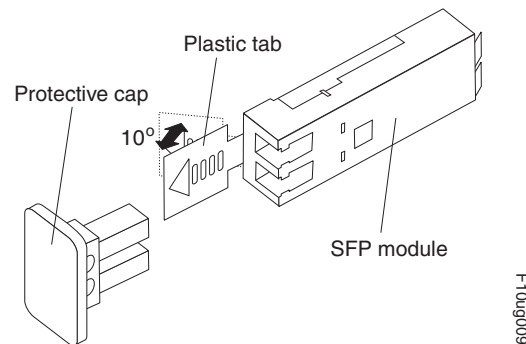

Figure 89. Unlocking the SFP module latch - plastic variety
- For SFP modules that contain plastic tabs, unlock the SFP module latch by pulling the plastic tab outward 10°, as shown in Figure 89.